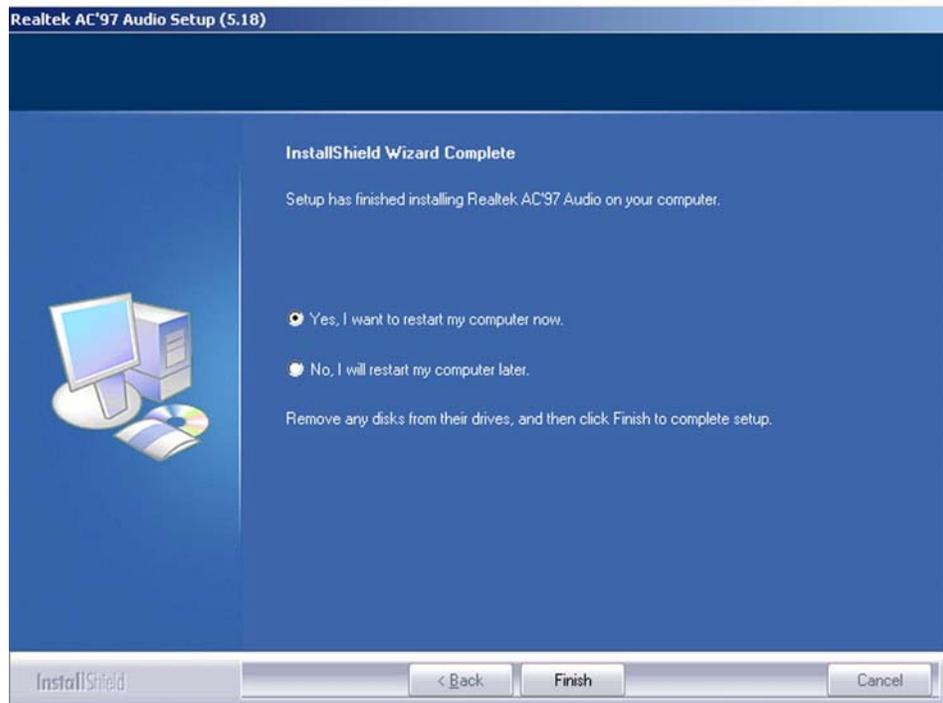

Figure 6-21: Audio Driver Installation Complete
Step 12: After the driver installation process is complete, a confirmation screen shown in **Figure 6-21** appears
Step 13: The confirmation screen shown in **Figure 6-21** allows you to restart the computer immediately after the installation is complete or to restart the computer later. For the settings to take effect the computer must be restarted. Once you have decided when to restart the computer, click the **“FINISH”** button.